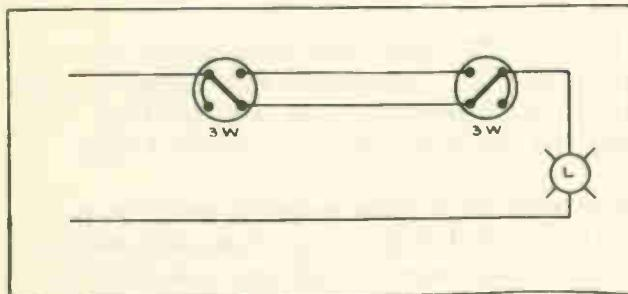

Fig. 3
2. Use - three-way switches are normally used to control a light or group of lights from two different places, so they can be turned on or off at either switch. Figs. 3 & 4. They may also be used as reversing switches.